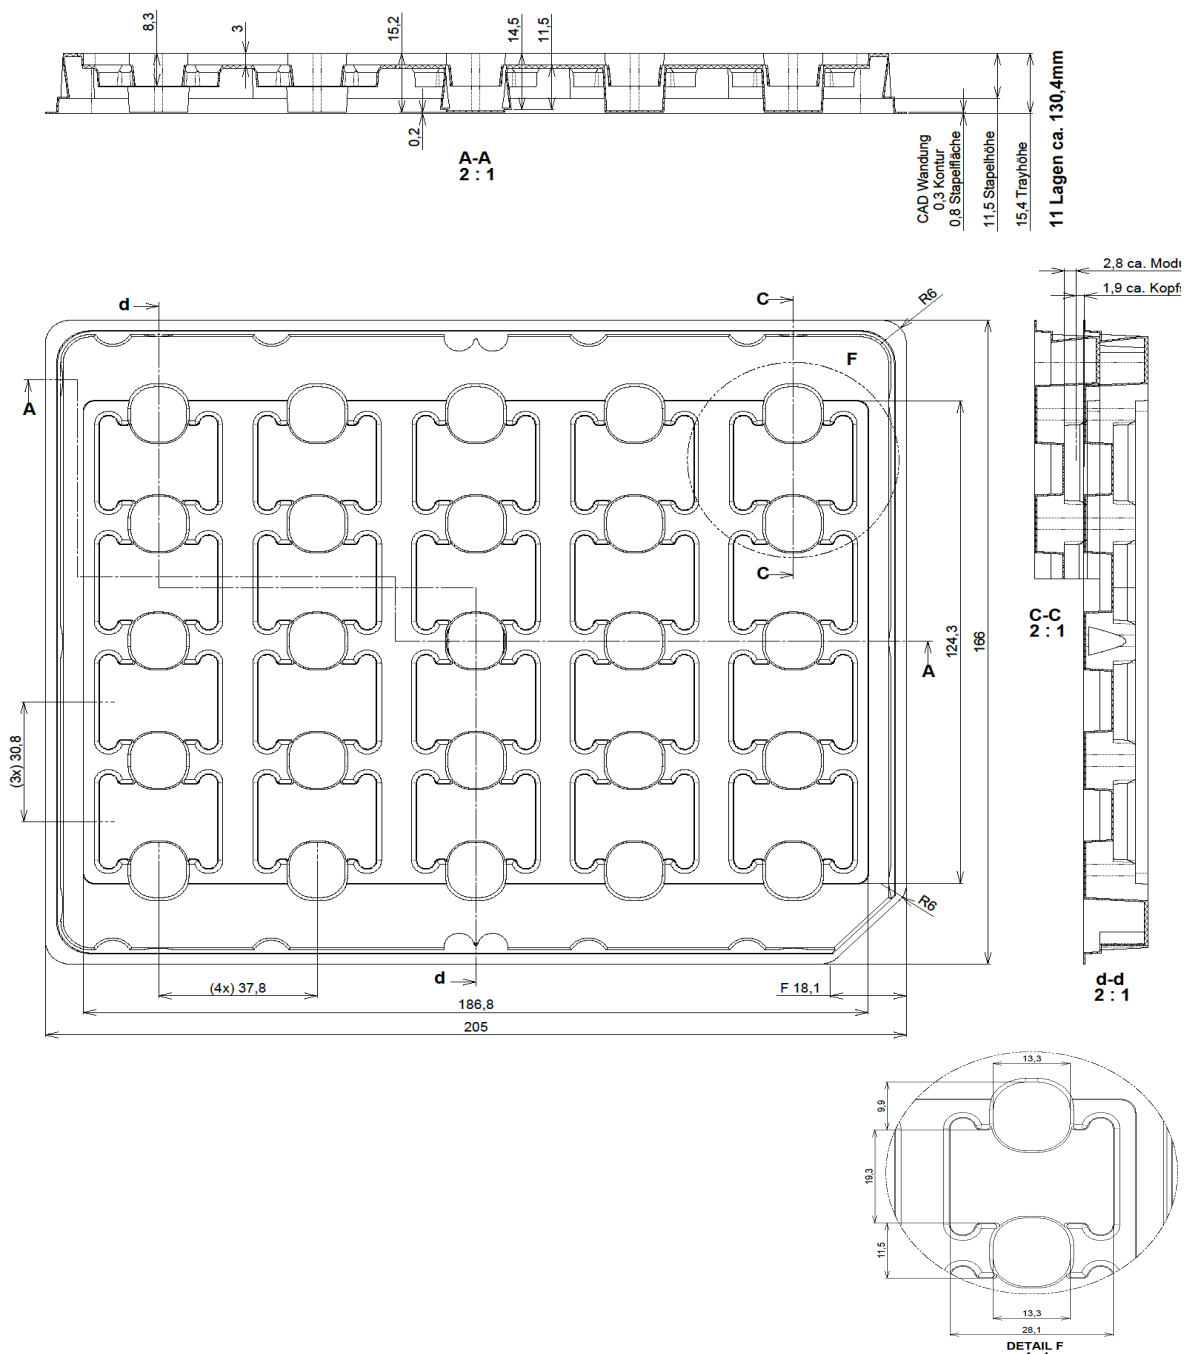

Figure 51: Tray dimensions
If small module quantities are required, e.g., for test and evaluation purposes, Cinterion® ENS22-E may be distributed in trays (for dimensions see Figure 51). The small quantity trays are an alternative to the single-feed tape carriers normally used. However, the trays are not designed for machine processing. They contain modules to be (hand) soldered onto an external application.
4.3.3	Updated Figure 51.